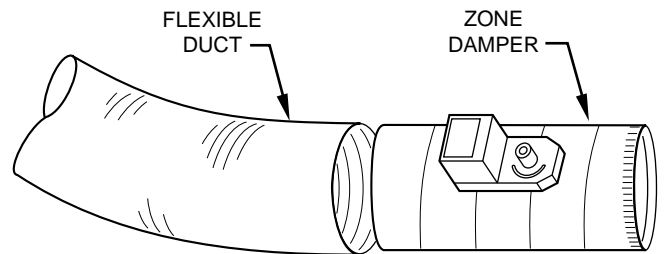

Fig. 5—Round Flexible Duct Work A95132
1. Slip 1 end of flexible duct work over 1 end of zone damper. (See Fig. 5.)